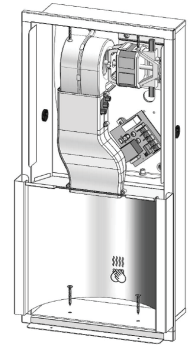

Fig. 6
7. Secure using #8x1-1/4" (4.2 x 32mm) pan-head sheet metal screws (not furnished). If using flat head screws, add washers to raise ceramic and reduce gap between the ceramic and round panel. (See Fig. 6)